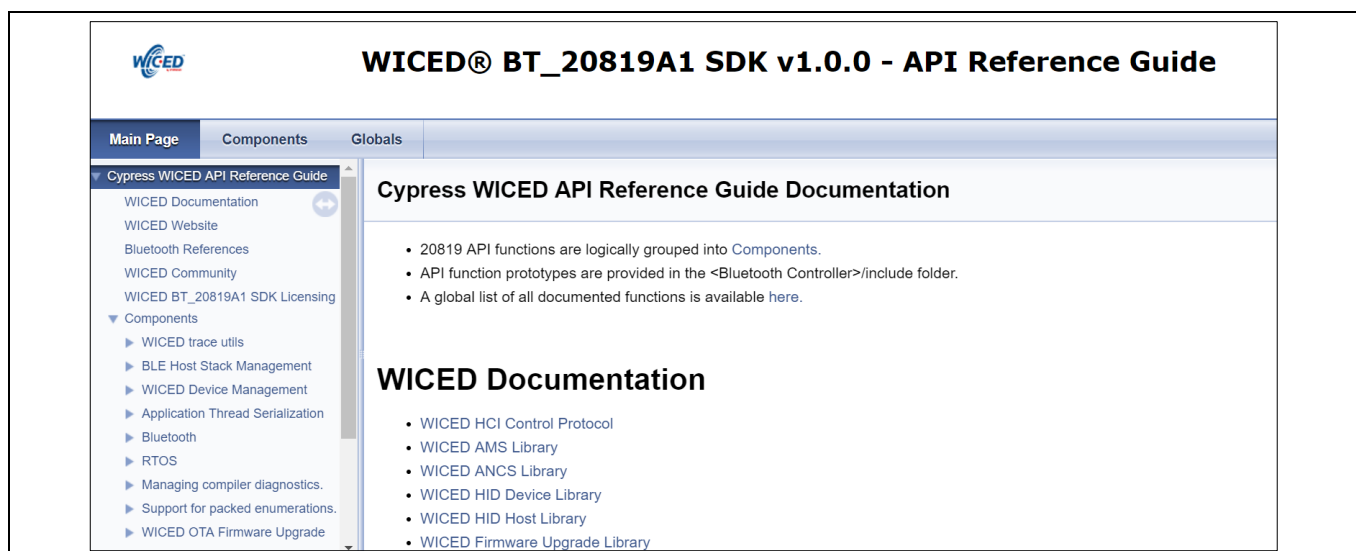

Figure 4 Bluetooth SDK API Reference
- **SDK API Reference:** Choose **Help > ModusToolbox API Reference > WICED API Reference**. This HTML format guide gives you information on the SDK APIs related to the CYW20819 device. The API functions are logically grouped into components, as shown in Figure 4, for easy navigation and reference.